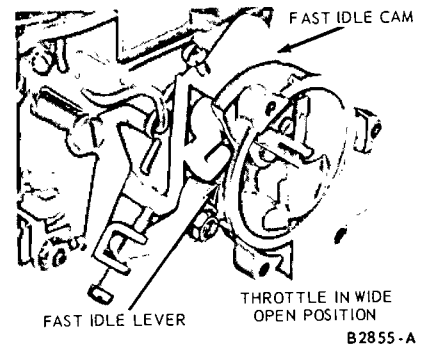

FIG. 20—Dechoke Clearance—Autolite Model 4300 4-V
2. Rotate the choke plate towards the closed position until the pawl on the fast idle speed lever contacts the fast idle cam (Fig. 20).